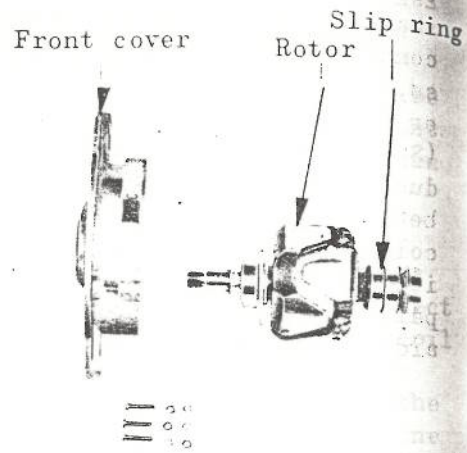

Fig. 10-24
- (3) Remove the bearing retainer nut from the front cover and then, remove the rotor. (See Fig. 10-24)